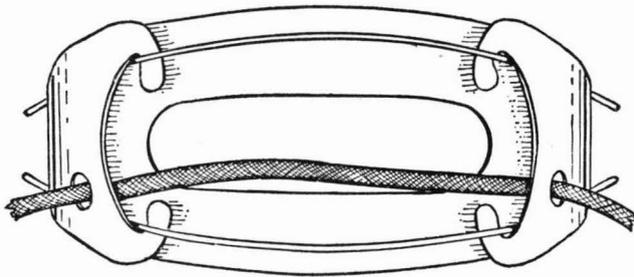

FIG. 1 • TOP VIEW OF HEADBAND WITH HEADBAND PAD IN POSITION
- 3.12 Replace a pad which is broken, torn or has sharp chips which might catch in the hair. Attach a pad to the headband as shown in Fig. 1. If the pad does not bend easily, moisten the narrow portions on both sides of the pad. Allow 15 minutes for the water to soak in before bending the pad.